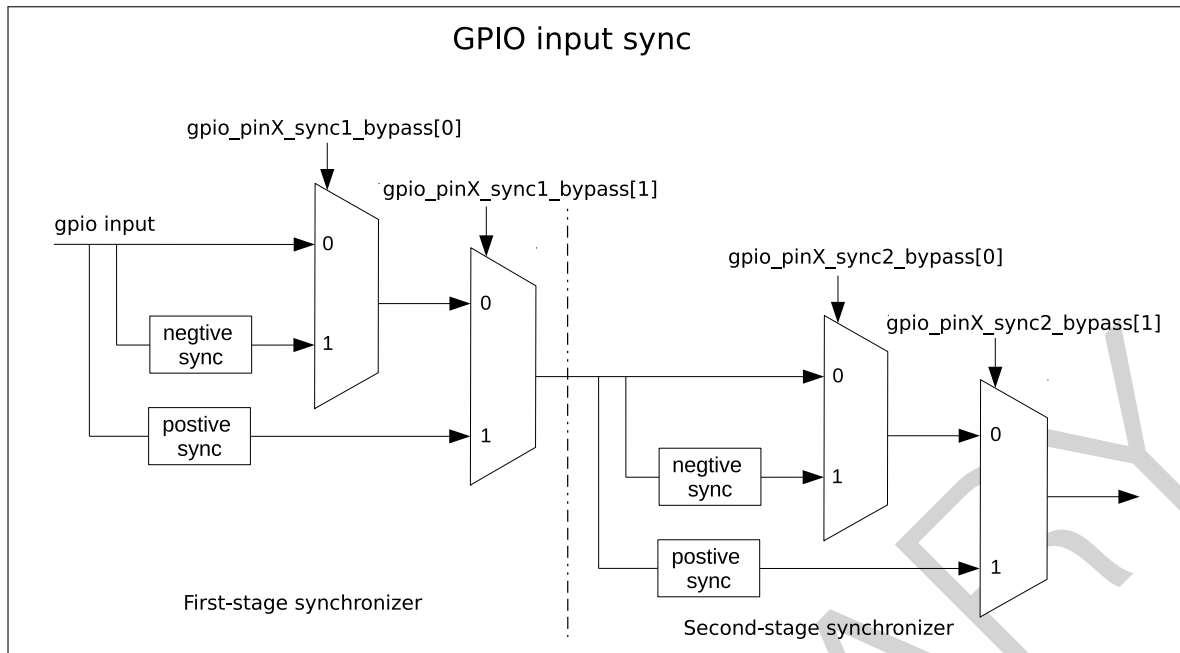

Figure 3-3. GPIO Input Synchronized on APB Clock Rising Edge or on Falling Edge
Figure 3-3 shows the functionality of GPIO SYNC. In the figure, negative sync and positive sync mean GPIO input is synchronized on APB clock falling edge and on APB clock rising edge, respectively.
- Set `GPIO_PIN x _SYNC1_BYPASS` to enable input signal synchronized on rising edge or on falling edge in the first clock, see Figure 3-3.
- Set `GPIO_PINx_SYNC2_BYPASS` to enable input signal synchronized on rising edge or on falling edge in the second clock, see Figure 3-3.